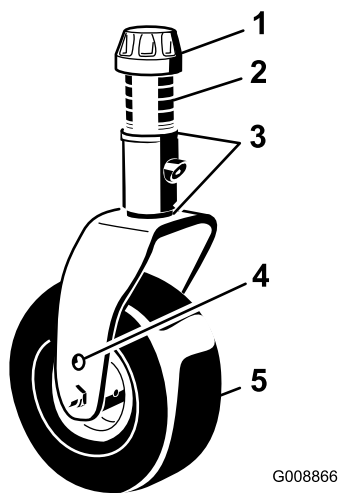

Figure 16
3. Remove the tensioning cap from the spindle shaft (Figure 16) and slide the spindle out of the castor arm. Put the 2 shims (1/8 inch [3 mm]) onto the spindle shaft as they were originally installed. These shims are required to achieve a level across the entire width of the cutting units. Slide the appropriate number of 1/2 inch spacers (refer to the chart below) onto the spindle shaft to get the desired height-of-cut; then slide the washer onto the shaft.